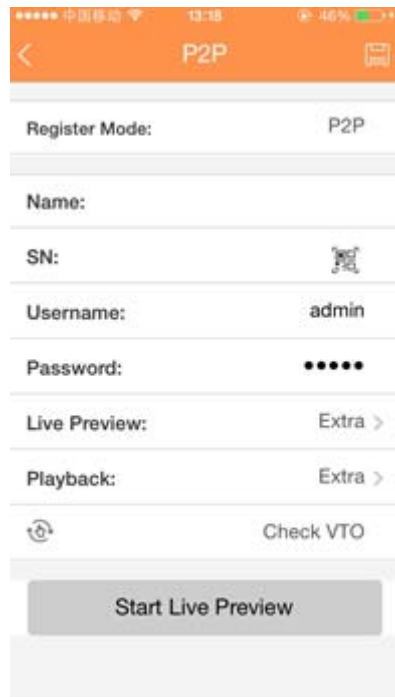

Figure 4-13
3. Tap Device manager button, you can use several modes (P2P/DDNS/IP and etc.) to add the device. Click  to save current setup. Tap Start Live preview to view all-channel video from the connected device. See Figure 4-13.